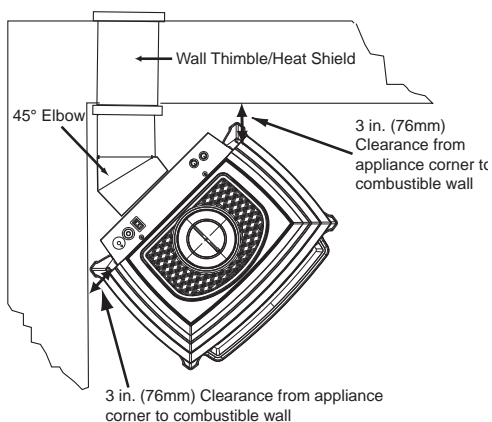

Figure 5.4
- A snorkel kit must be used. **Figure 5.3 below and Figure 5.4 on page 12.**